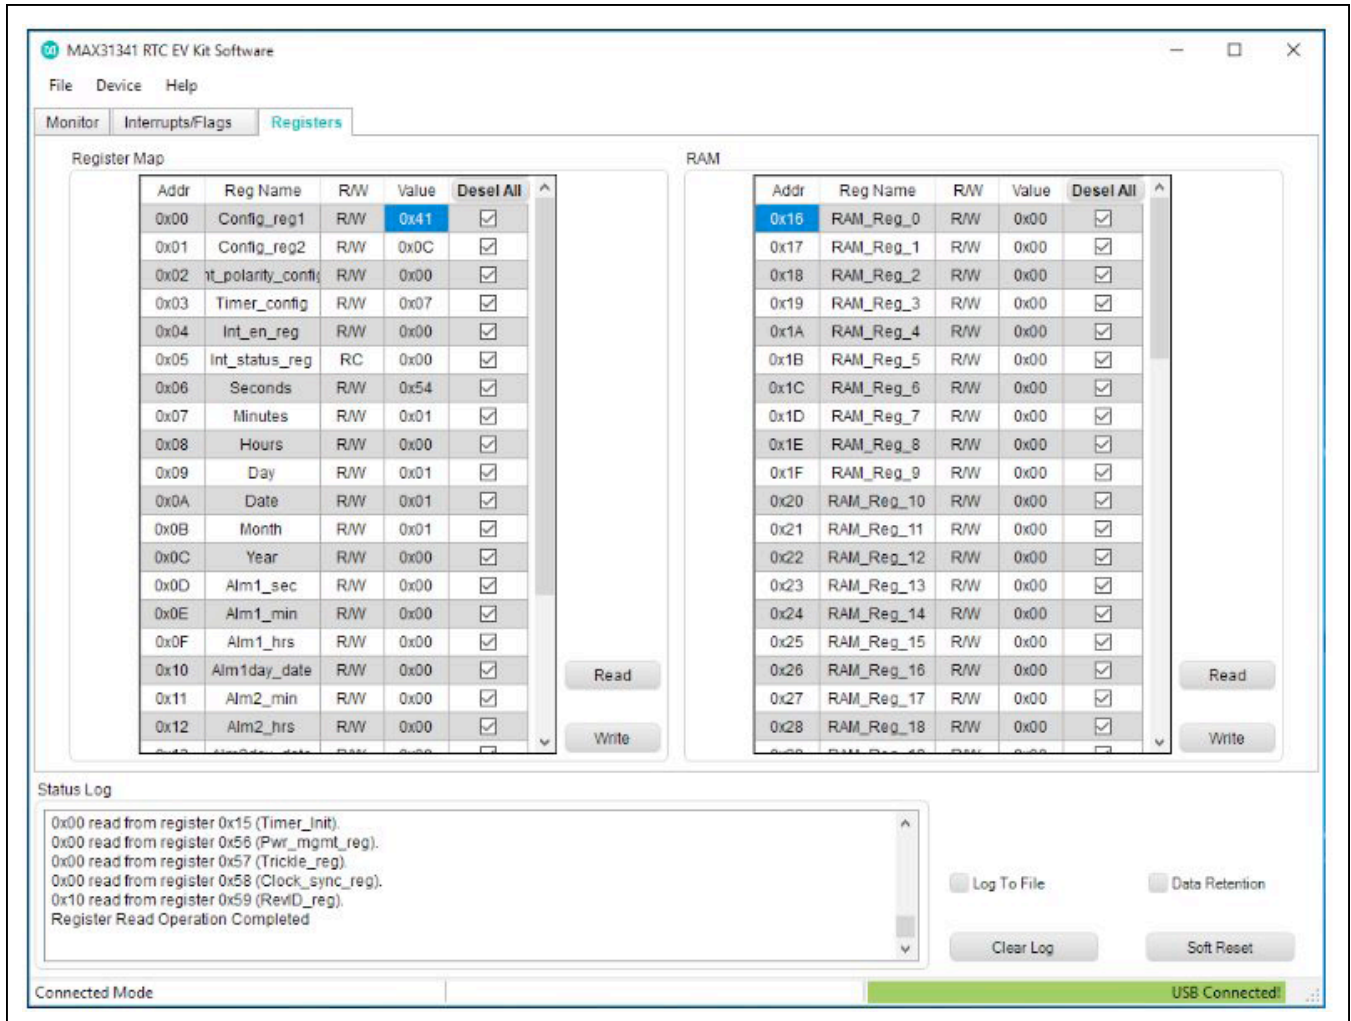

Figure 5. MAX31341 RTC EV Kit Software—Registers Page
- On Registers Page (Figure 5), under Register Map window, press Read button and make sure that the value of register 0 (Config\_reg1) shows 0x41. Otherwise, set it to 0x41 and press Write button. Now the reading in the picometer is the current from MAX31341B only. It should be around 210nA.